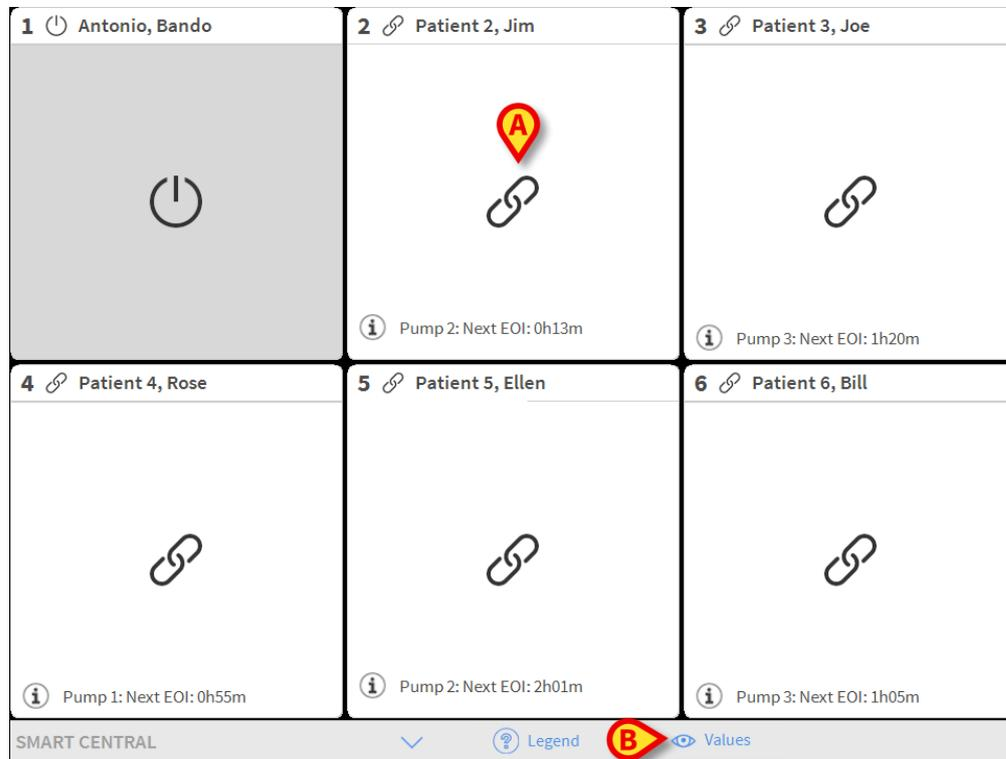
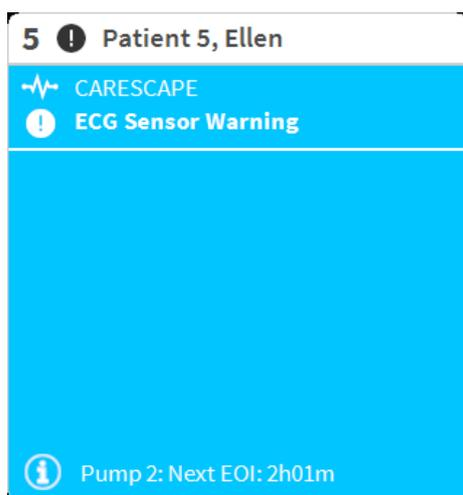
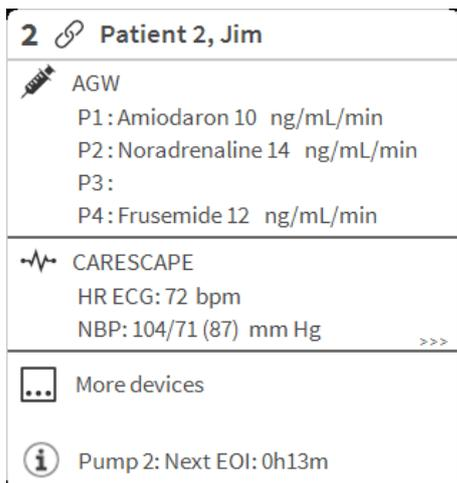

Fig 45
Fig 47
Fig 51
The Digistat Smart Central screen, shown in Fig 45, opens.
The Digistat Smart Central screen displays an overview of the situation of each patient in the ward (Fig 45).
The screen is divided into rectangular areas, named “Bed areas” (Fig 45 **A**). Every area refers to a bed and displays information on the devices connected to the patient admitted to that bed. By default, only the data referring to alarmed beds is displayed (Fig 47), and only data relating to alarms is displayed. A bed is alarmed if at least one of the devices connected to the bed is alarmed. If multiple alarms occur at the same time on the same bed, the alarm with the highest priority is notified.
It is possible to display all the available data (both referring to the non-alarmed beds and referring to the non-alarmed devices on the alarmed beds) by clicking the “VALUES” button on the command bar (Fig 45 **B**).
- Click the **Values** button on the command bar (Fig 45 **B**)
Each “Bed area” displays some of the data provided by the devices connected to the patient (Fig 47). The kind of data displayed depends on the design and configuration of the device.
If the “Bed area” is light blue, as in Fig 47, it means that there is at least one low priority alarm, and no medium and/or high priority alarms, coming from the connected devices.
To display device data on these devices “pump” click the **Values** button on the command bar (Fig 45 B). The “Bed area” will appear as in Fig 51.